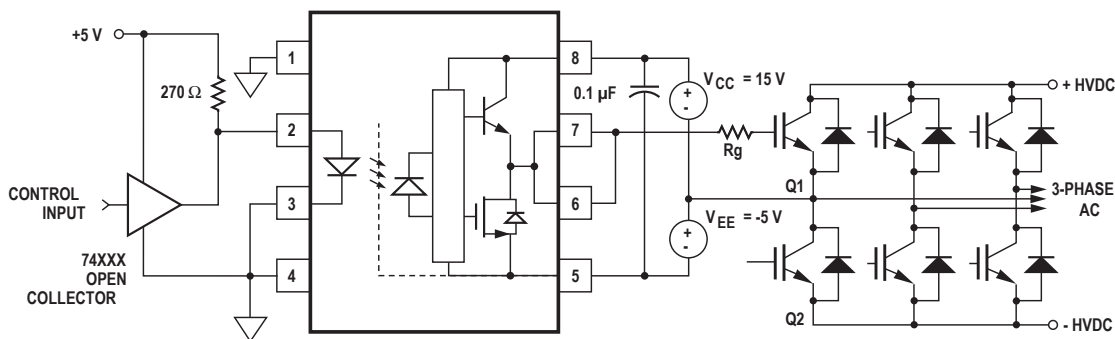

Figure 30. ACPL-3130 Typical Application Circuit with Negative IGBT Gate Drive.
Step 1: Calculate R_g minimum from the I_{OL} peak specification. The IGBT and R_g in Figure 30 can be analyzed as a simple RC circuit with a voltage supplied by the ACPL-3130.
For the circuit in Figure 30 with I_F (worst case) = 16 mA, R_g = 8 Ω, Max Duty Cycle = 80%, Q_g = 500 nC, f = 20 kHz and T_A max = 85°C: